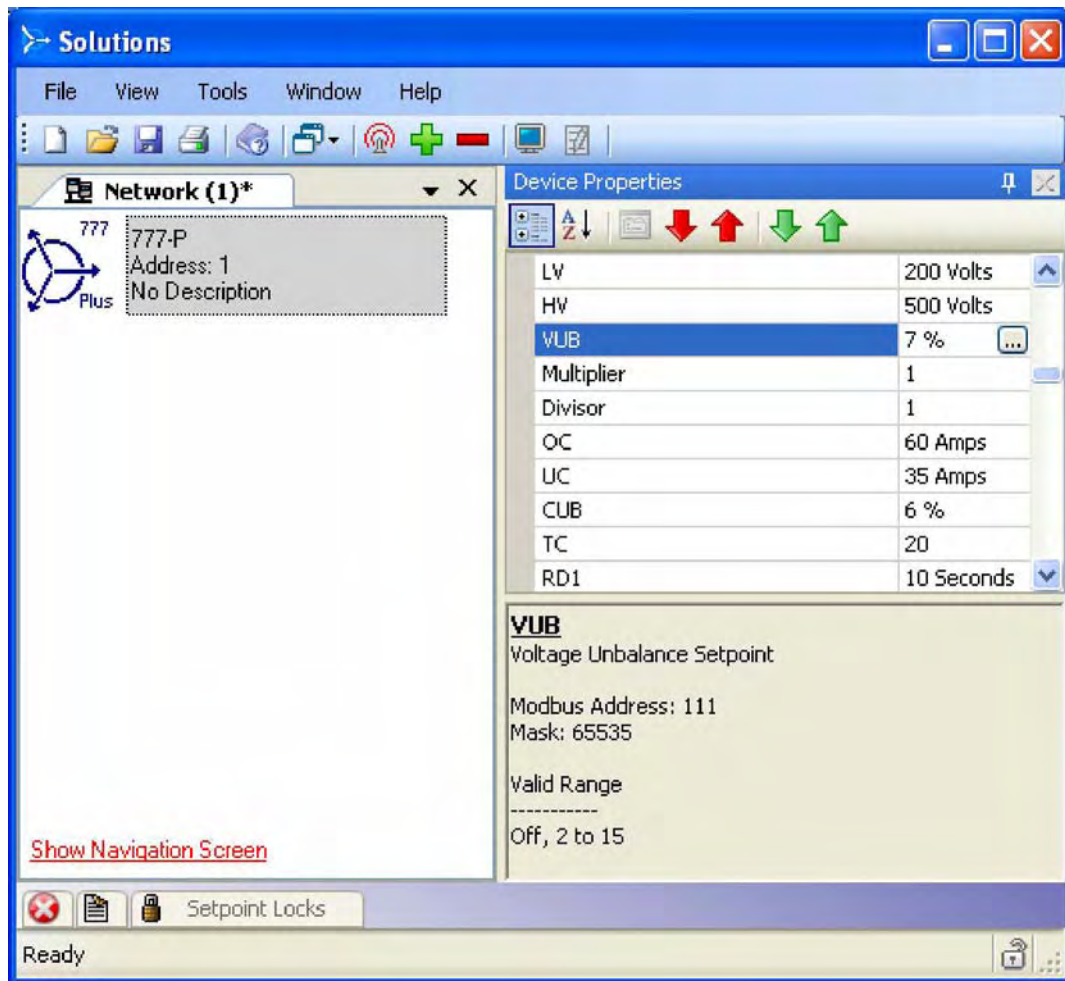

Figure 4-Modbus Parameters
Step 4. Click the desired device to edit the device parameters (see Figure 4)